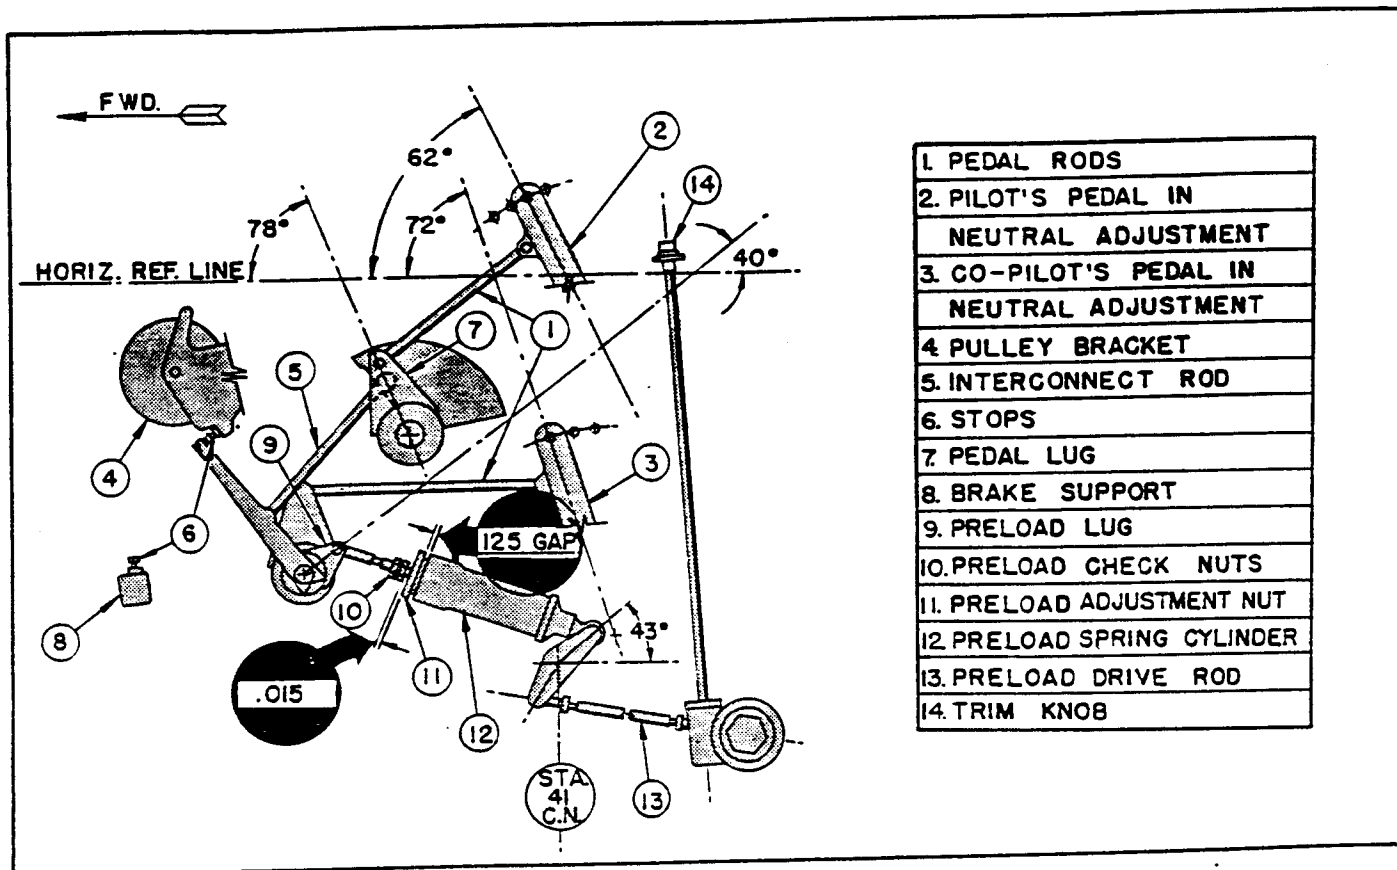

Figure 19. Rudder Pedal and Trim Adjustments
1. Adjust the rudder closed stops on the pulley bracket until the copilot's rudder torque tube preloader lugs (reference 6, figure 19) are 40 degrees, plus or minus 1 degree above the horizontal reference line. Clamp the torque tubes to the stops in this position.
3. Adjust the interconnect rods (see reference 5, figure 19) until the pedal lugs on the pilot's torque tubes are 78 degrees, plus or minus 1 degree, above the horizontal reference line.
(c) RUDDER TRIM MECHANISM. (See figure 19.)
2. Adjust the preload adjustment nuts (see item 11, figure 19) to obtain a gap of .125-inch. Tolerance is plus .020, minus .000-inch.